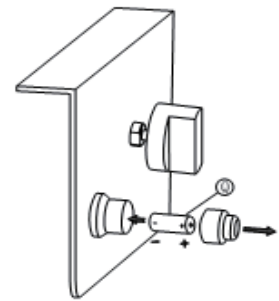

Figure 4
4. Turn off the igniter cover and put the battery (11) inside according to the electrode (Figure 4).